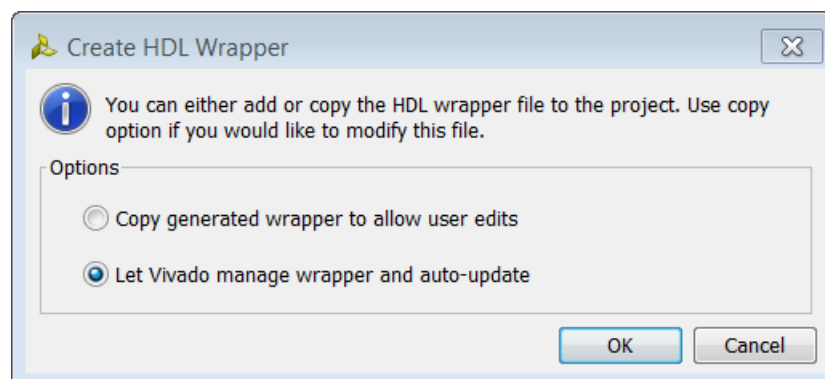

Figure 61: Create HDL Wrapper Dialog Box
20. Keep the default setting and click **OK** (FIGURE 61).